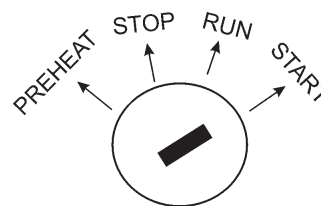

Figure 42. Engine Ignition Switch
10. If the generator is equipped with a ignition switch, turn the key to "Start" position (Figure 42). Once the engine starts, release the key to the "on" position.